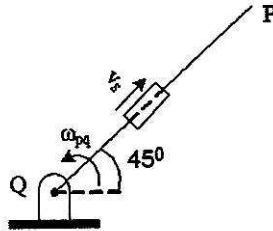

Fig. 3
7. (a) What is Coriolis acceleration ? Find the direction of this acceleration in the case shown in Fig. 3 : [4]